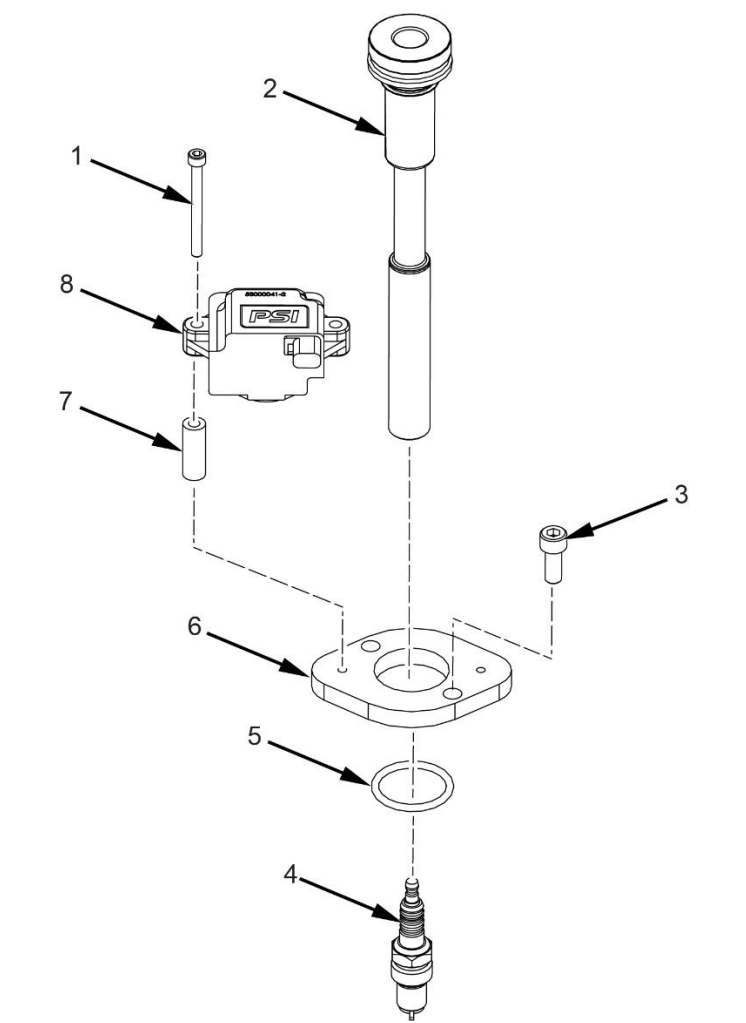

Figure 38. Explosion Relief Valve Assembly
1. Remove the two bolts (Figure 38, Item 1) on the ignition coil (Figure 38, Item 8).
2. Remove the ignition coil. (Figure 38, Item 8).
3. Remove the two spacers (Figure 38, Item 7) directly below the ignition coil (Figure 38, Item 8).
4. Remove the two bolts (Figure 38, Item 3) on the ignition coil bracket (Figure 38, Item 6).
5. Remove the ignition coil bracket (Figure 38, Item 6).
6. Remove ignition coil boot (Figure 38, Item 2) and O-ring (Figure 38, Item 5) if necessary.
2. Install ignition coil boot (Figure 38, Item 2) and O-ring (Figure 38, Item 5) if removed.
3. Install ignition coil bracket (Figure 38, Item 6) and torque down the two ignition coil bracket bolts (Figure 38, Item 3) to 17 lb-ft.
4. Install the two spacers (Figure 38, Item 7) and place the ignition coil (Figure 38, Item 8) over the spacers.
5. Insert and torque down the two ignition coil bolts (Figure 38, Item 1) to 80 lb-in.